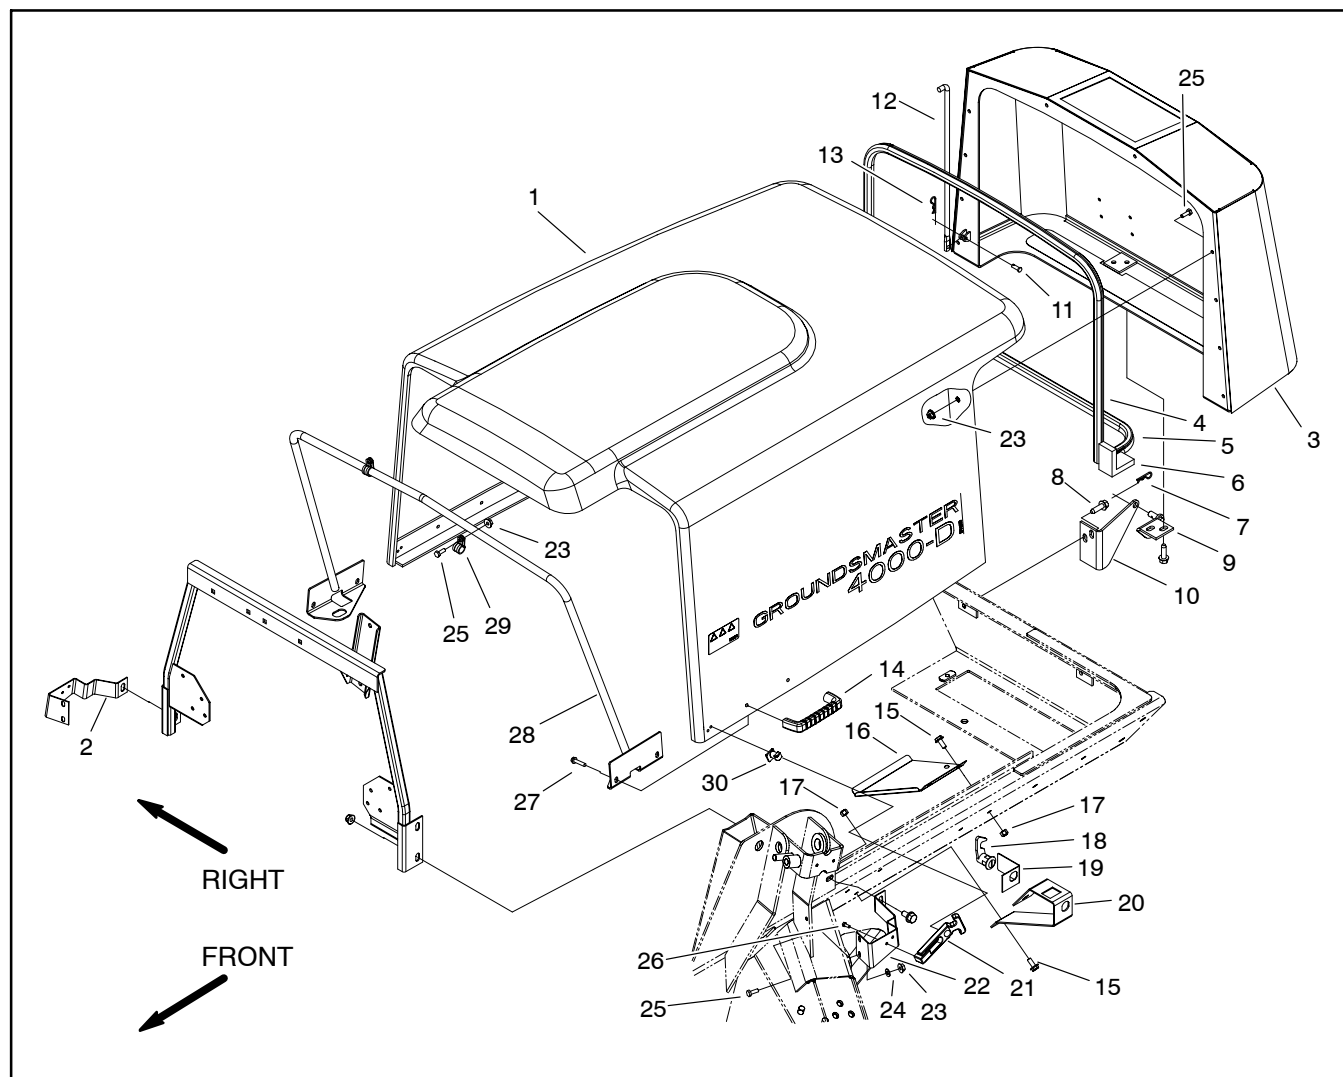

Figure 16
2. Remove hood using Figure 16 as a guide.
1. Install hood using Figure 16 as a guide.